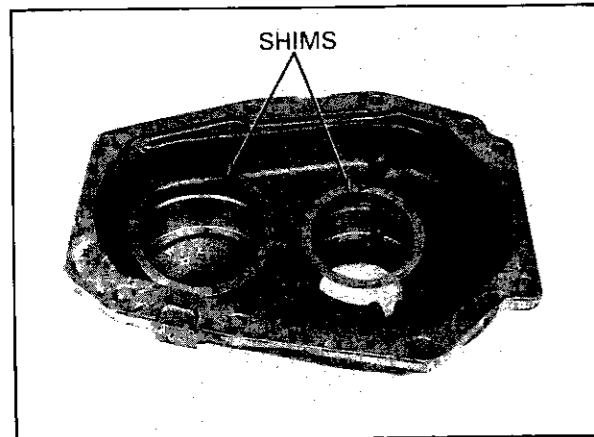

FIG. 40 REAR COVER SHIM INSTALLATION
44. Assemble shims for the countershaft and output shaft into their respective bores in the case rear cover (Figure 40). Apply petroleum jelly to the bearing cups to prevent them from sliding out of their bores. Assemble each cup into the respective bore.